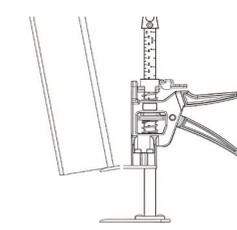

Figure 1
- It is strictly prohibited to use the lifter when it is in half contact with heavy objects (Figure 1).